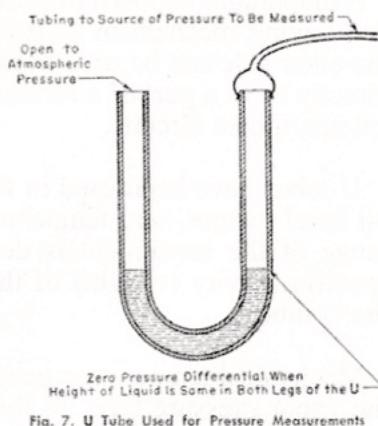

Fig. 7. U Tube Used for Pressure Measurements
(1) U TUBES. If a tube formed into a U shape as shown in Fig. 7 is partially filled with a liquid, it can be used to measure pressures. These pressures can be expressed in pounds per square inch, inches of mercury, or inches of water. When two different pressures are applied to the two surfaces of the liquid in the U tube as shown in Fig. 7, the greater pressure will push